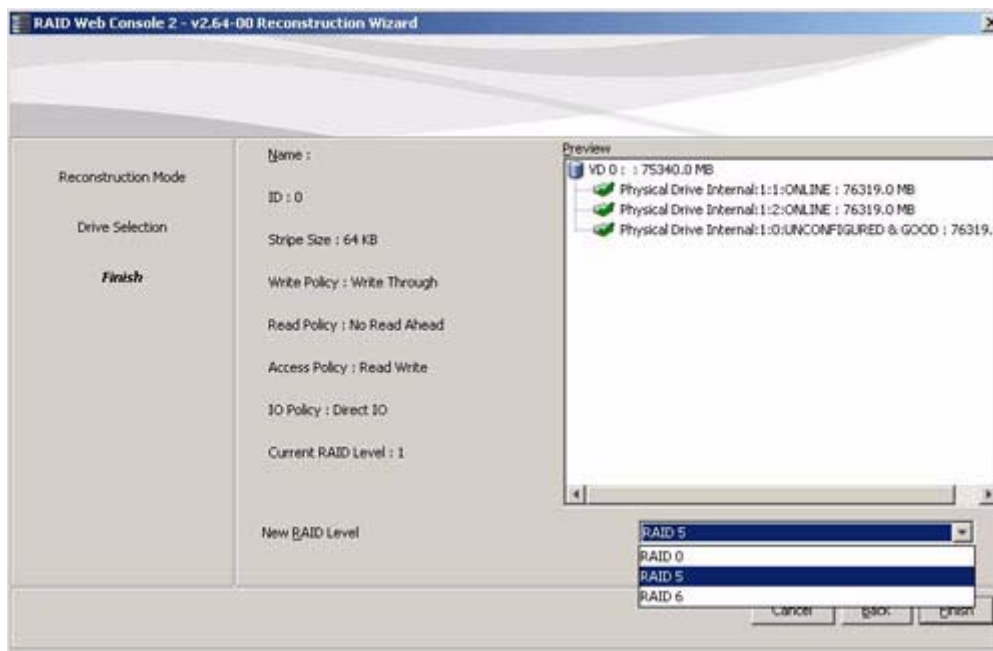

Figure 62. Changing RAID Level
5. When you are finished adding disk drives, click **Next**. The next screen displays, which allows you to select and change the RAID level as shown in Figure 62.